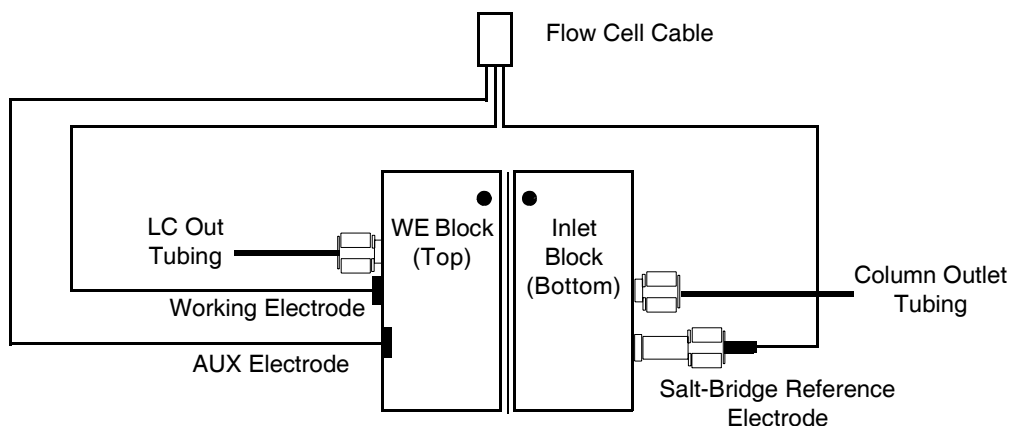

Figure 4-7 Removing the Salt-Bridge Reference Electrode
3. Open the door, then disconnect the flow cell tubing and cable (Figure 4-7).